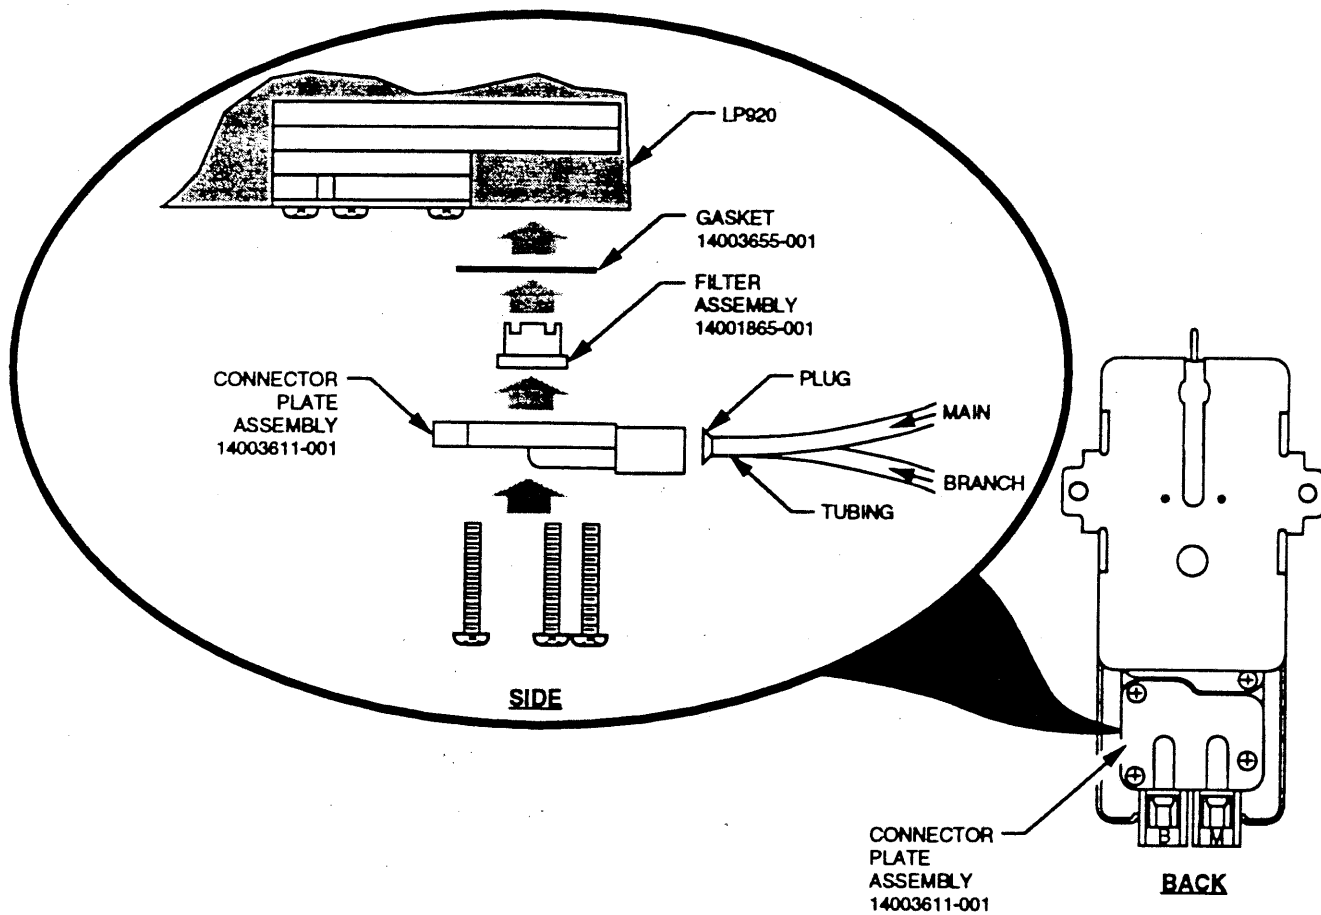

Fig. 8. LP920 Connector Plate and Filter Assembly.
1. Remove three screws (Fig. 8) holding Connector Plate Assembly.
1. Disconnect the tubing to the controller (Fig. 8) and cap or plug main line.
1. Disconnect tubing to the controller (Fig. 8) and cap or plug main line.